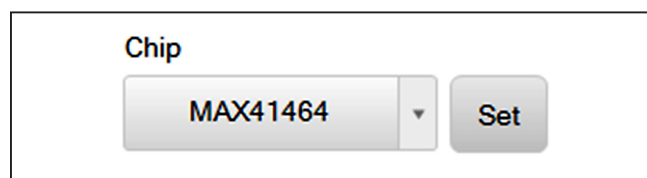

Figure 9. Part Selection
- Select the appropriate part in the “Chip” drop-down box and click the <Set> button (see Figure 9).